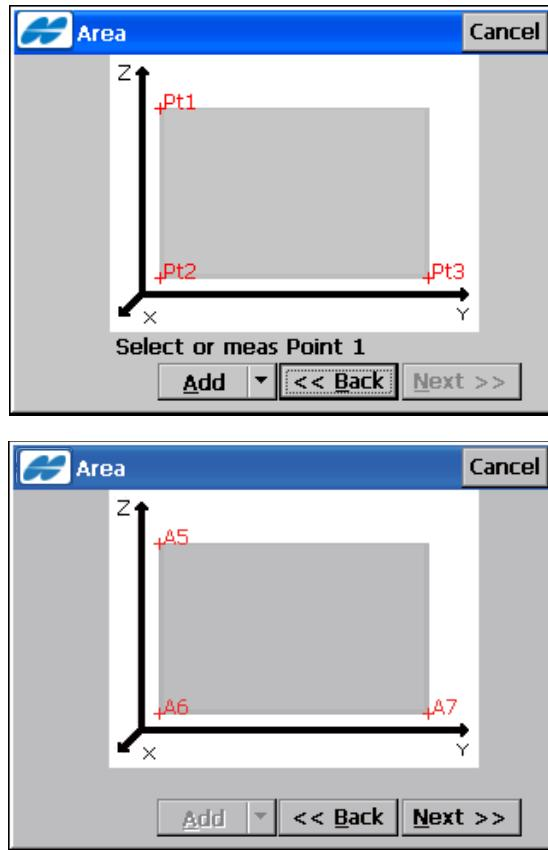

Figure 9-43. Select Area
- Next – opens the *Area* screen (Figure 9-43 on page 9-43).
The *Area* screen (Figure 9-43) selects the starting and ending points for the scanning area.